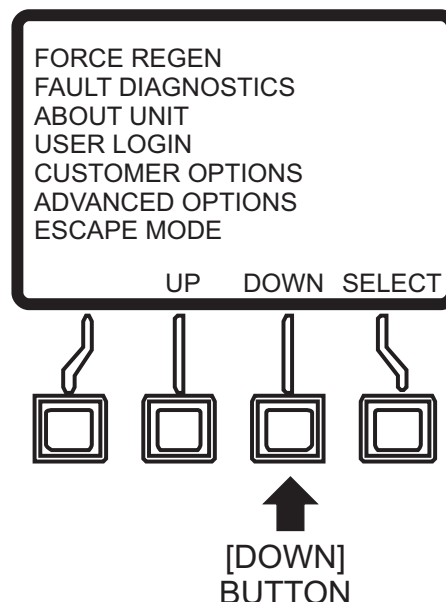

Figure 95. Main Menu (Down Button)
4. Press the **[DOWN]** button (Figure 95) to scroll to the Escape Mode item.